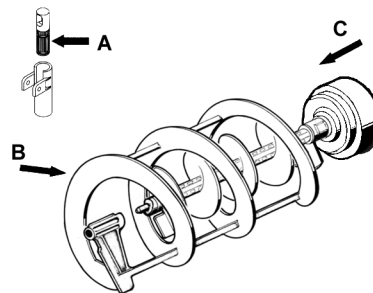

figure 12
- 2 - Lubricate faucet piston, inside auger and outer spiral (see points A, B and C of figure 12) only with the grease supplied by the manufacturer or other **food grade approved** lubricant.